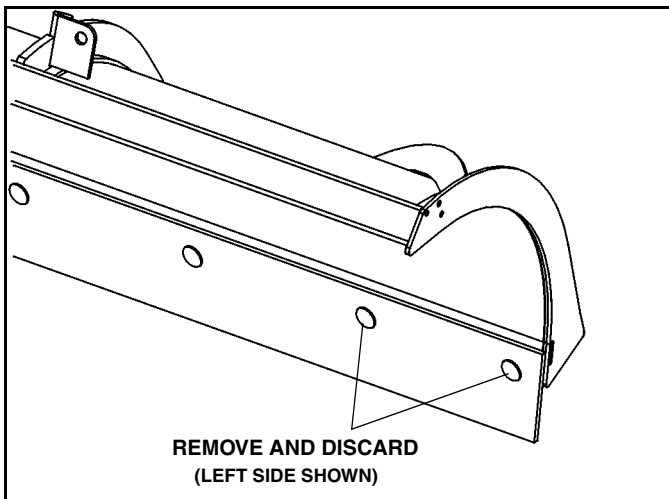

Figure 1-1
2. Remove and discard outer two wearstrip carriage bolts and nuts from both ends of plow blade. (See Figure 1-1).